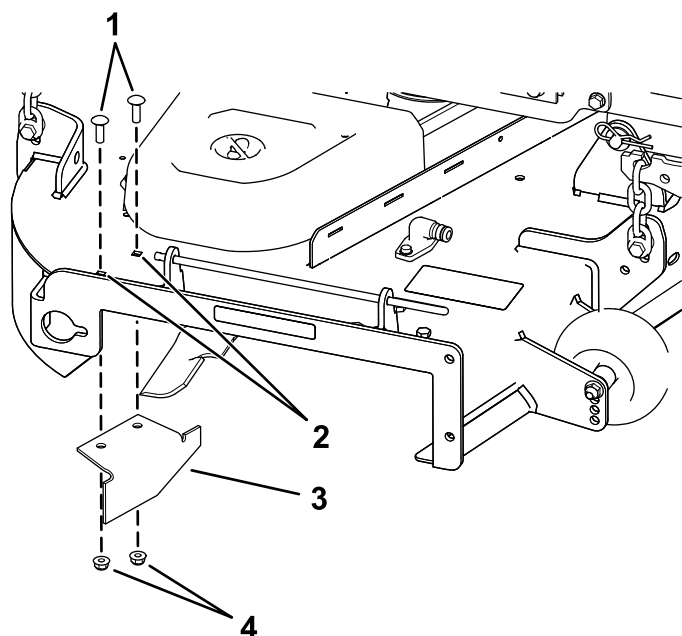

Figure 20
14. Locate the cutoff baffle in the loose parts bag, remove the fasteners at the rear holes of the discharge plate, and install the baffle at the side-discharge opening on the mower deck (Figure 20).